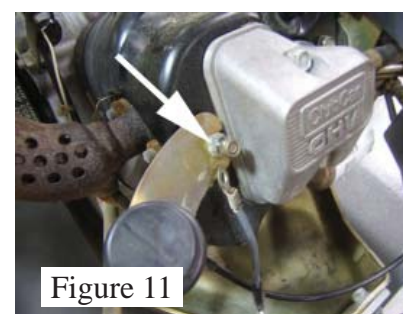

Figure 11
5. Disconnect the engine ground wire from the engine. (See Figure 11).